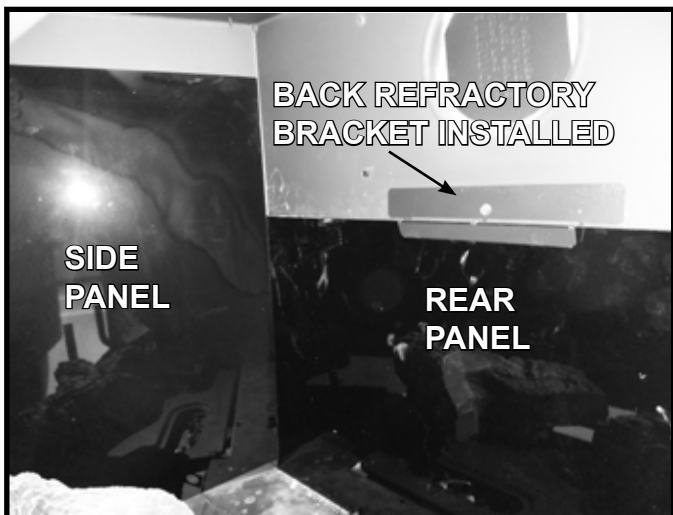

Figure 8. Side Panel Flush with Rear Panel
9. Install rear glass refractory panel. The bottom of the panel is placed behind the tabs that have been bent upward. See Figure 7. Secure the back glass panel with the back refractory bracket and self-tapping screw as shown in Figure 8. Center the rear refractory bracket prior to attaching it. It may be necessary to bend the lower leg of bracket slightly more until it contacts the glass.
10. Slide one side panel behind bent tabs until side panel is flush with rear glass panel. Slide glass refractory bracket, installed in Step 6, toward the glass and tighten the screw. Do not overtighten. Repeat process to install the other side panel. See Figure 8.